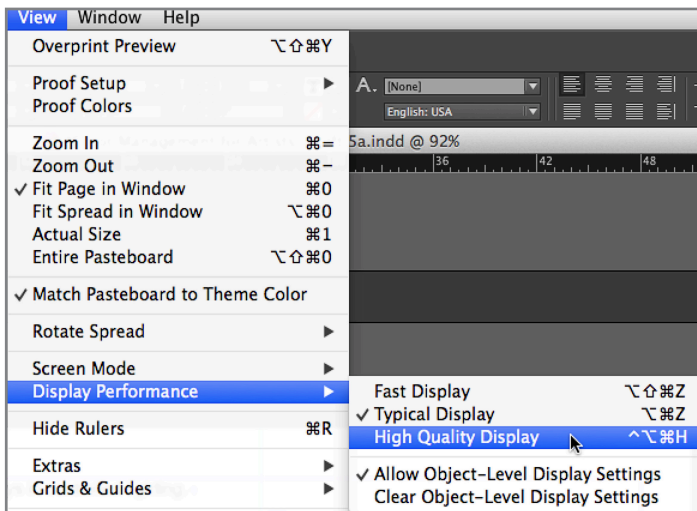

Figure 44
2. Under the View menu, select Display Performance, to ensure the setting is High Quality Display (Figure 44). This setting delivers the best possible viewing quality from InDesign.